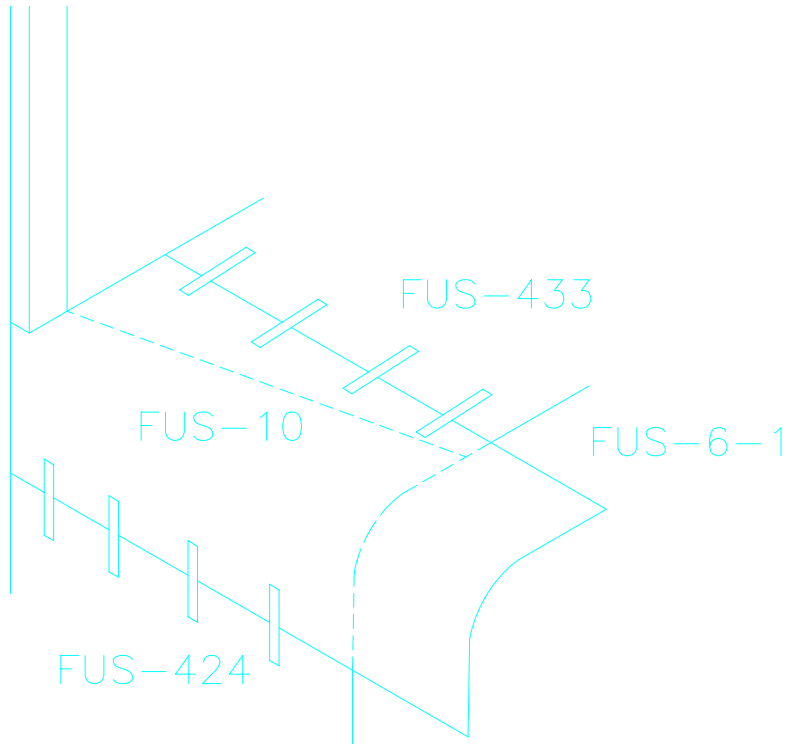

Figure 9.20.2
3) Tape the FUS-10 into place. Figure 9.20.2.